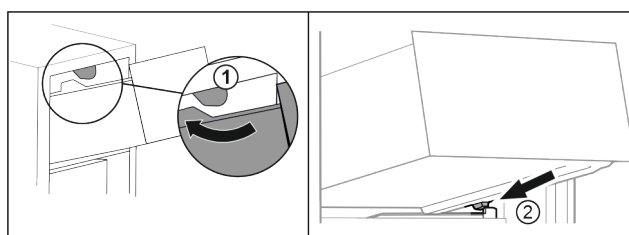

Fig. 94
- ▶ Guide drawer around the upper stoppers. Fig. 94 (1)
- ▶ Place drawer at an angle behind the lower stoppers onto moulded rib. Fig. 94 (2)